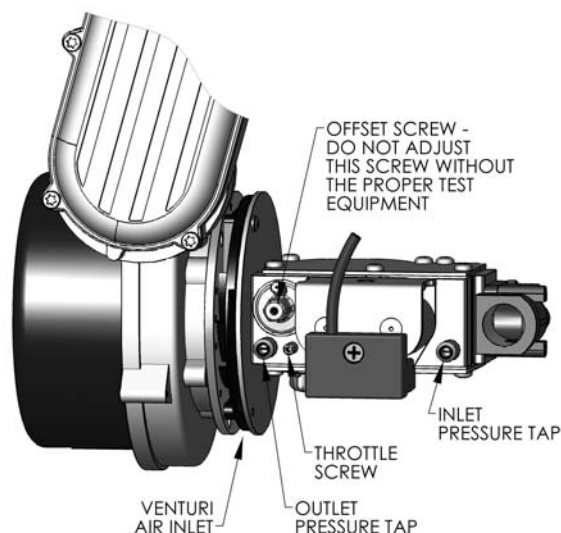

Figure 5.2: Gas Valve/Venturi
2. Table 5.3 shows the maximum and minimum fuel gas supply pressure to be measured at the gas valve inlet pressure tap. See figure 5.2.
- c. Using a flat screwdriver, turn the screw inside the inlet tap fitting (see Figure 5.2) one turn counter clockwise.
1. Figure 5.2 is an illustration of the gas valve/venturi assembly for the *PUREFIRE®* boiler.
- a. Adjustments should not be made to the gas valve without instrumentation to measure carbon dioxide (CO₂) and carbon monoxide (CO) emissions in the vent pipe.